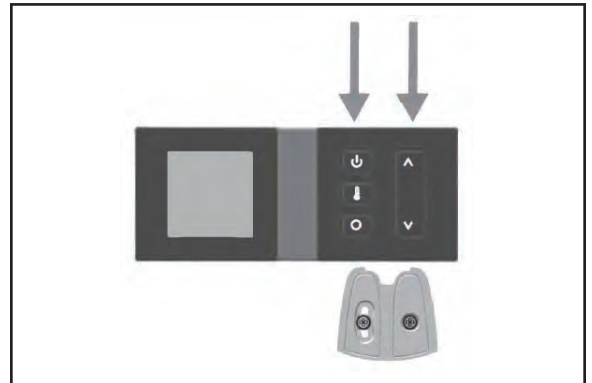

Fig.29
- Insert the remote control onto the adapter. (Fig. 29)